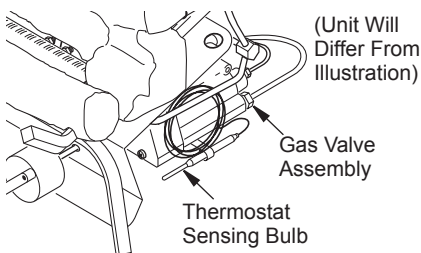

Figure 38 - Location of Gas Valve Assembly and Thermostat Sensing Bulb
1. Locate the gas valve assembly and thermostat sensing bulb (see Figure 38).